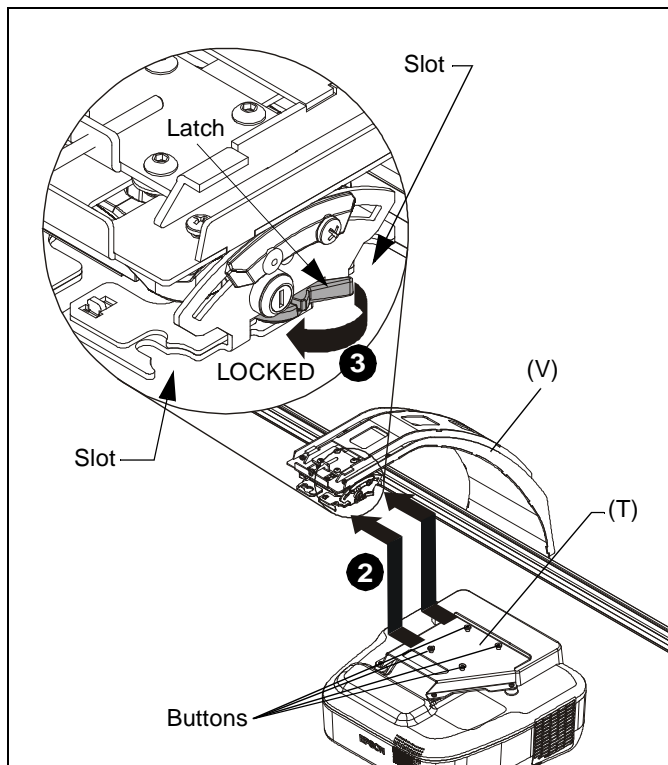

Figure 9
2. Lift projector with attached interface (T) and slide buttons on interface into slots on boom projector mount (V). (See Figure 9)
3. Slide latch to LOCKED position to lock projector in place. (See Figure 9)